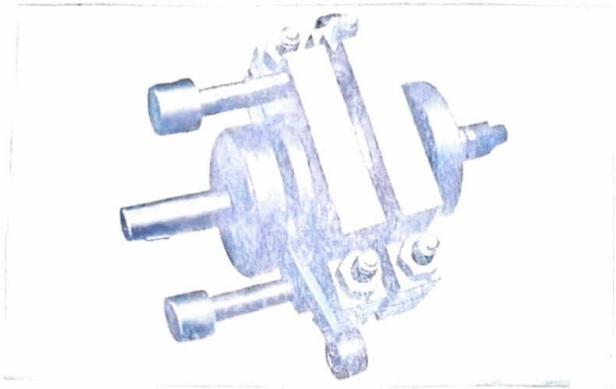

Fig. 3-131
3. Fig. 3-131 shows the tools installed on the crankshaft assembly.